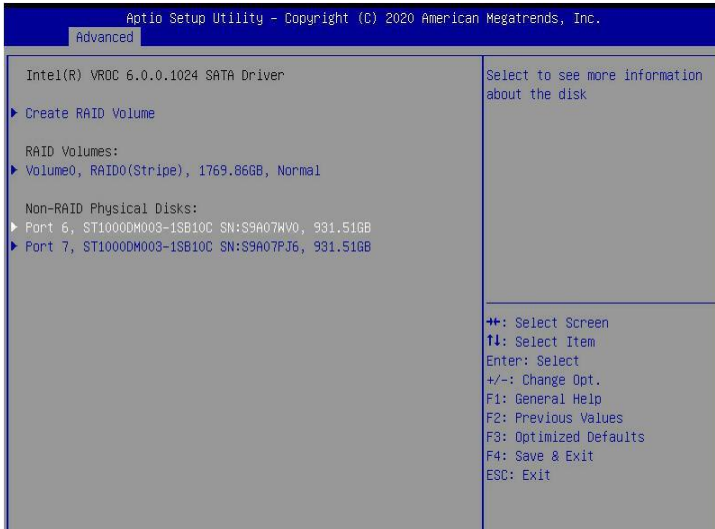

Figure 6-8
a) As shown in Figure 6-8, select the disk to be configured as a hot spare disk and press Enter.
✧ Figure 6-8 Select the disk to be configured as a hot spare disk